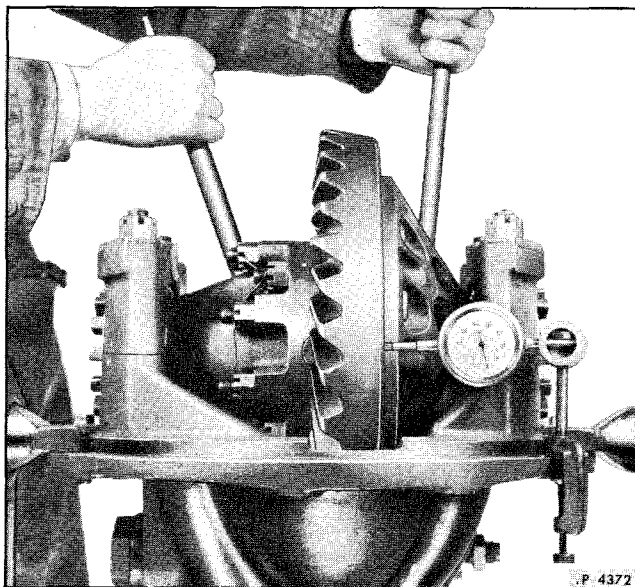

Figure 7—Differential Bearing Preload Adjustment
1. Using dial indicator at back face of drive gear (1) as shown in figure 7, loosen bearing adjusting ring (38), on side opposite bearing, enough to notice end play on dial indicator.
3. Tighten adjusting rings (38) one notch each from .000 end play position to impose correct preload on differential side bearings (39).